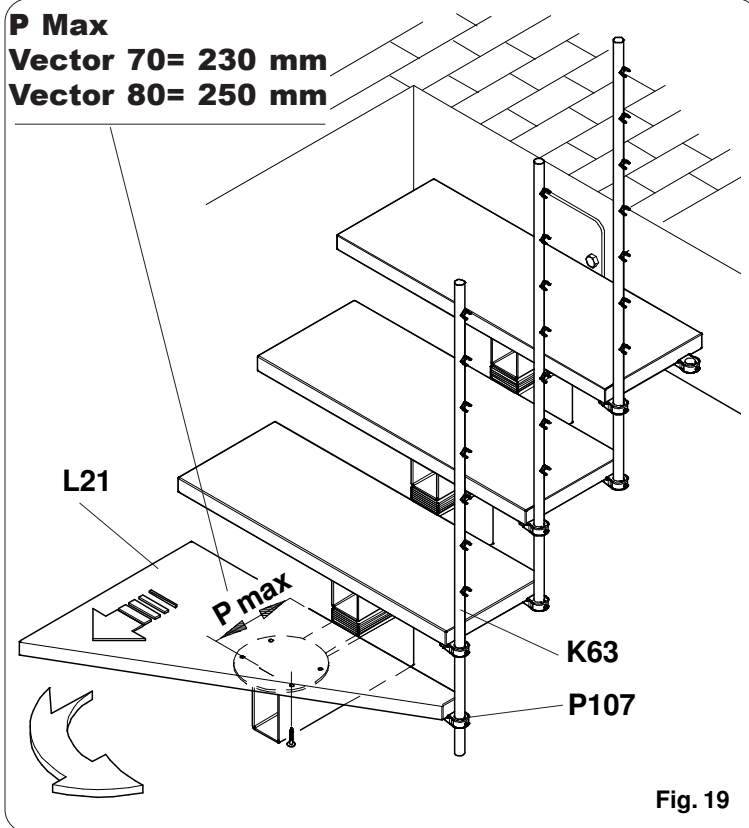

Fig. 19
- Continue assembling the following steps according to the same procedure until the first **L21** is achieved where the staircase starts turning. Mount the **P107** support on the **L21** step by using the pre-existing holes and make sure to insert the square nut with relevant security dowel as illustrated above. Inset a **K63** banister column into the top step support and lock it temporarily in the position illustrated in fig. 19. Check that the module is positioned in the **P Max** tread position, then place the **L21** step as shown in fig. 19 and lock it by means of **B205**. Adjust the step in the maximum tread position, i.e. all the way in the front, until the most advanced position is achieved. (fig. 19)